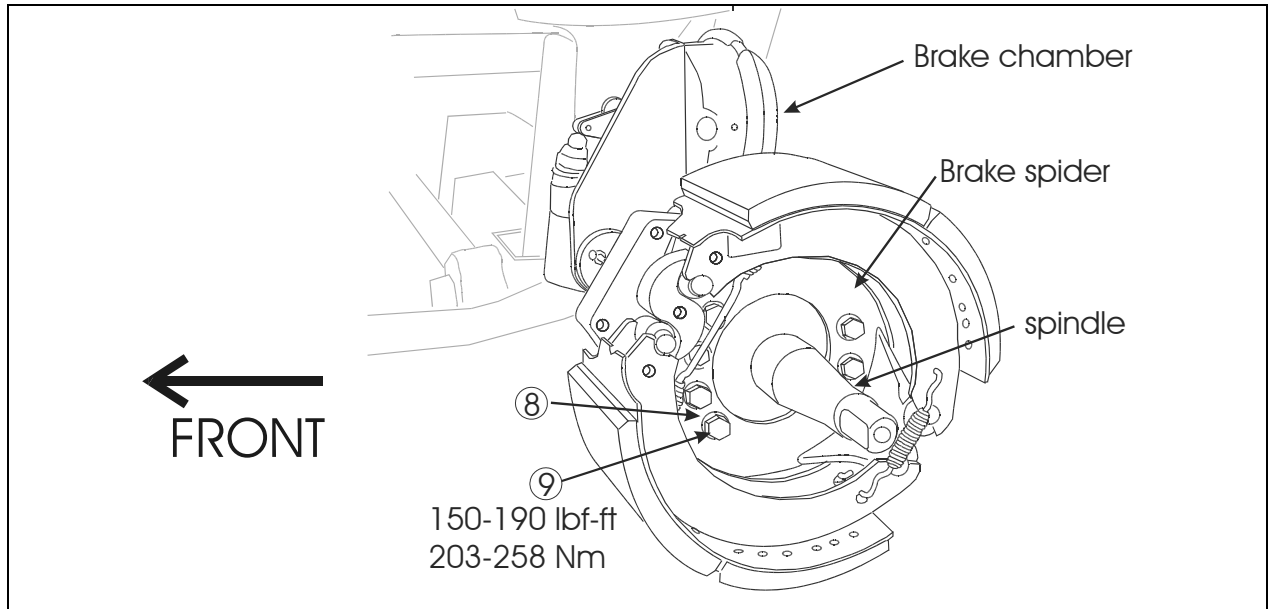

FIGURE 2: BRAKE SPIDER INSTALLATION
Install the brake spider on the steering knuckle flange. The air brake chamber must be in the uppermost position. Use bolts (9), washers (8) and (7) and nuts (10). Thin washers (8) are to be outboard (bolt head side). Torque nuts to 150-190 lbf·ft (203-258 N·m) (figure 2 & 3).